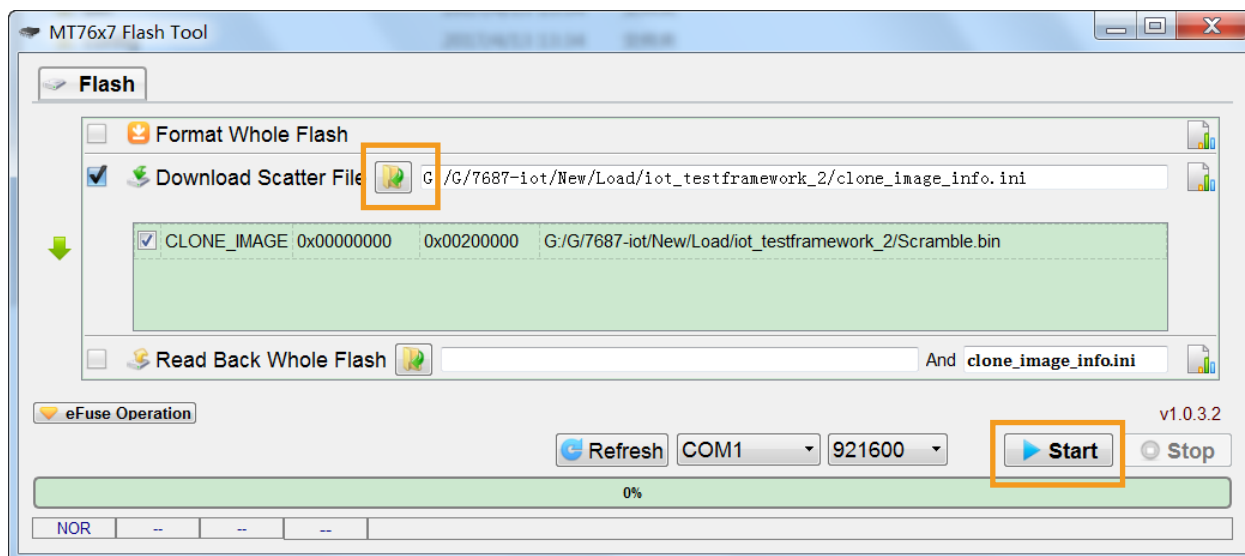

Figure 8. Clone the image using Download Scatter File function
- 3) Click **Start** to execute the command, as shown in Figure 8.